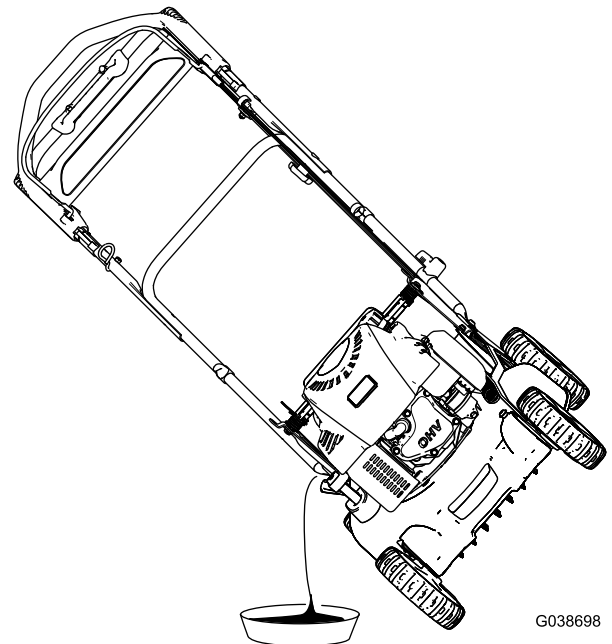

Figure 28
4. Tip the machine onto its side, with the dipstick down, to drain the used oil out through the oil-fill tube into an oil drain pan (Figure 28).